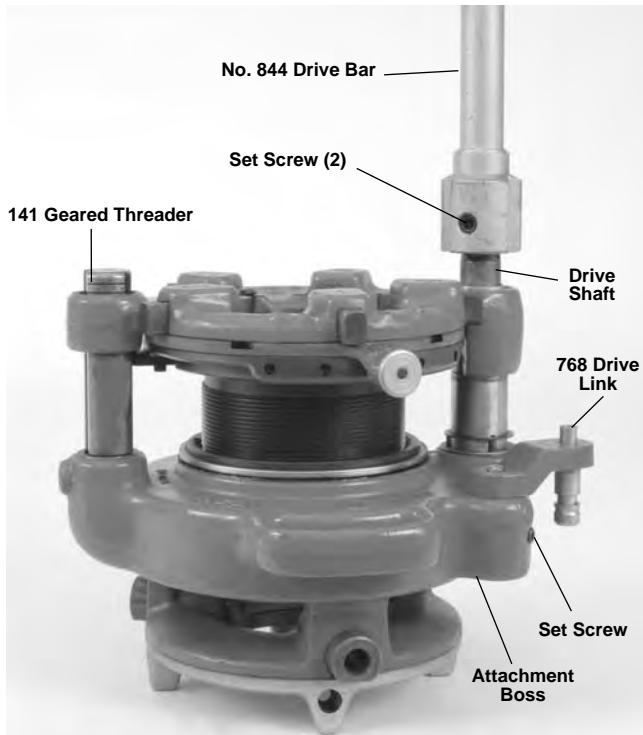

Figure 15 – 844 Drive Bar and 768 Drive Link Installed
8. With the drive shaft of the geared threader up, attach the 844 Drive Bar and securely tighten the two set-screws to retain in place (See Figure 15). For 535A machine, do not attach drive bar at this time.
- Loosen setscrew in geared threader attachment boss. Install the 768 Drive Link into boss and tighten setscrew to retain (Figure 15). Do not over tighten – the drive link should rotate freely.